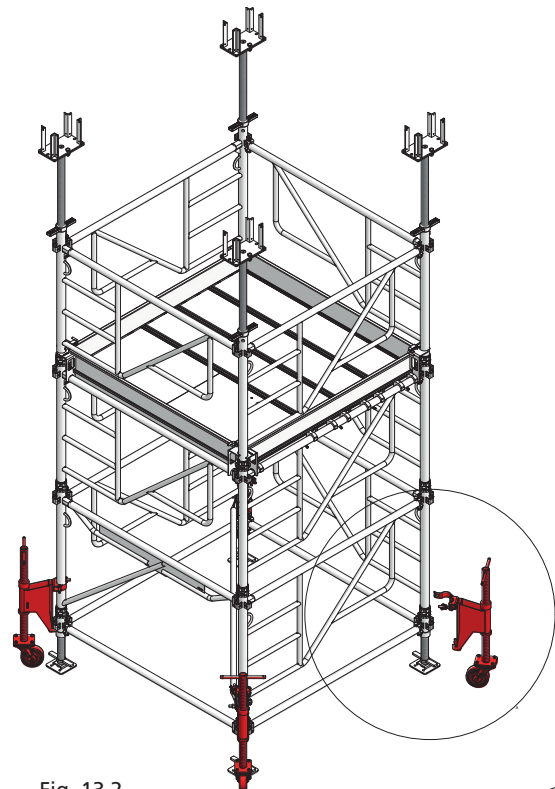

Fig. 13.2
21. Attach the 4 transport wheels MT to the base spindles MT and to the frames MT of level 1 (Fig.13.2 and Detail 13.2)